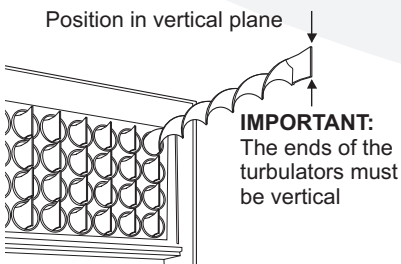

Figure 11-5: Turbulators
7. Pull out the spiral turbulators from the heat exchanger tubes. See Figure 11-5.